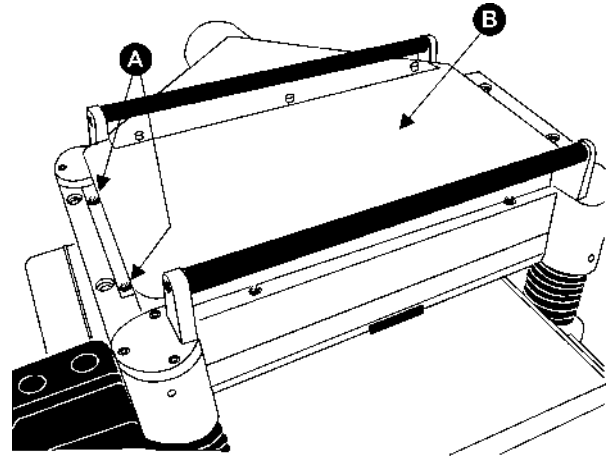

FIGURE 15
2. Remove the six screws (A) and remove upper cover (B), Figure 15.
2. Remove six screws and upper cover (see Figure 15).